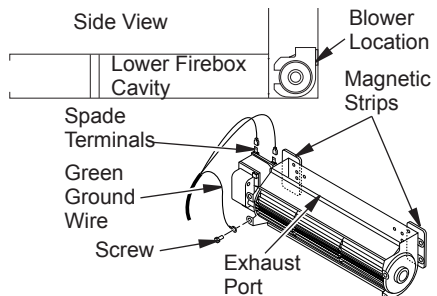

Figure 25 - Blower Model BK
1. Attach the power cord to the blower motor by firmly pushing the two female terminals at the end of the power cord onto the two spade terminals on the blower motor (see Figure 25).
2. Attach green ground wire from power cord to blower housing using screw provided (see Figure 25). Tighten screws securely.
3. Place the blower against the lower rear wall of the firebox outer wrapper with the exhaust port directed upward. The blower will fit inside the back opening and be held in position against the back wall by the magnets (see Figure 25, page 19).